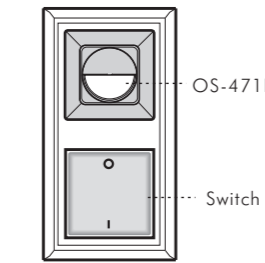

FIG.7 (2-gang switch)
- The existing switch with 2-gang or more can be replaced by OS-471D (See FIG.7).